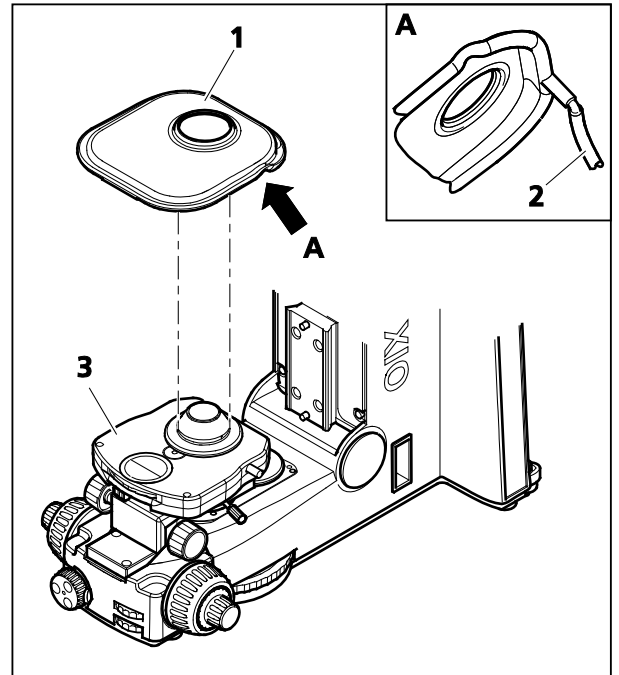

Figure 3-42 Installing the Aqua Stop
- Connect the discharge hose (Figure 3-42/2) to the Aqua Stop (Figure 3-42/1).
- Carefully put the Aqua Stop (Figure 3-42/1) on the condenser (Figure 3-42/3). The rim must fit in the slot at the condenser.
- Run the discharge hose (Figure 3-42/2) to a corresponding vessel (dish, etc.).